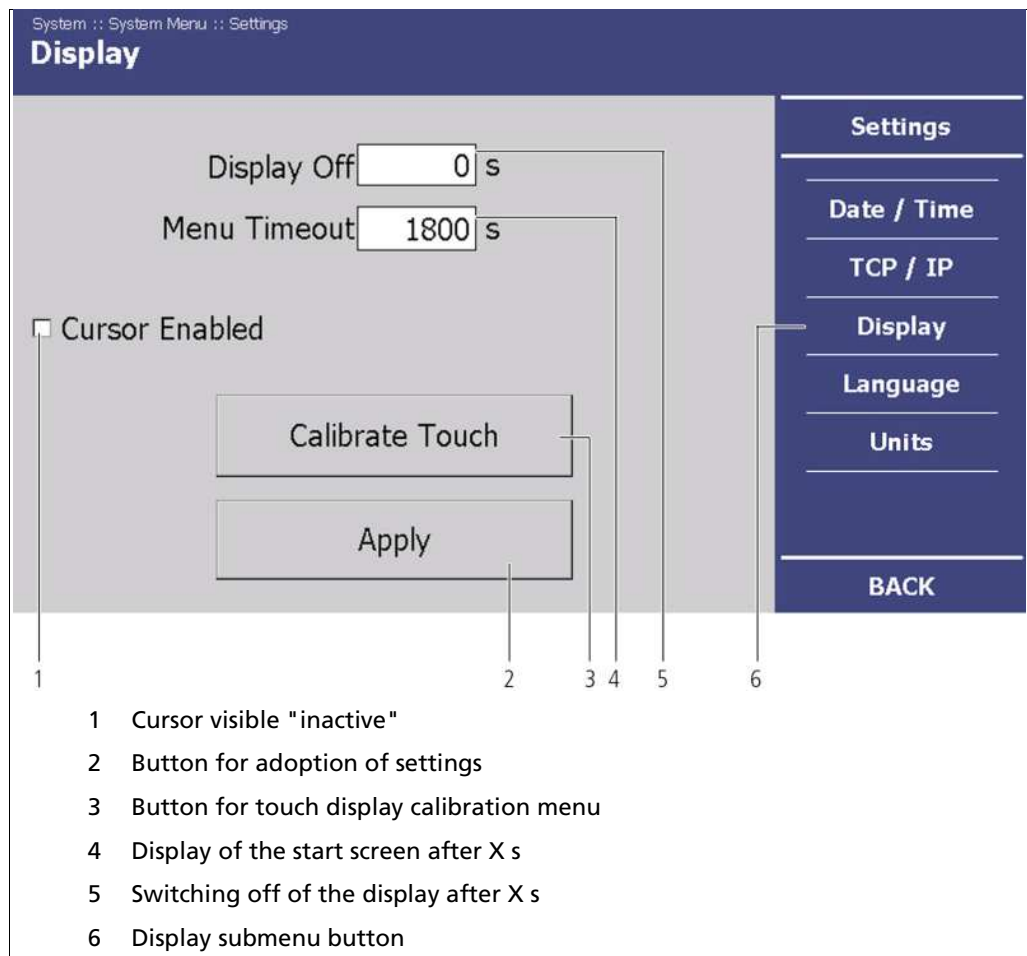

Fig. 29 System Menu. Settings - Display
Cursor Enabled	If the EVU is to be operated with a mouse, a tick must be put in the "Cursor visible" check box (Fig. 29, Pos. 1). The cursor is visible even if there is no mouse connected and the EVU is operated via the touch display.
1. Click on <Calibrate touch pad> (Fig. 29, Pos. 3).